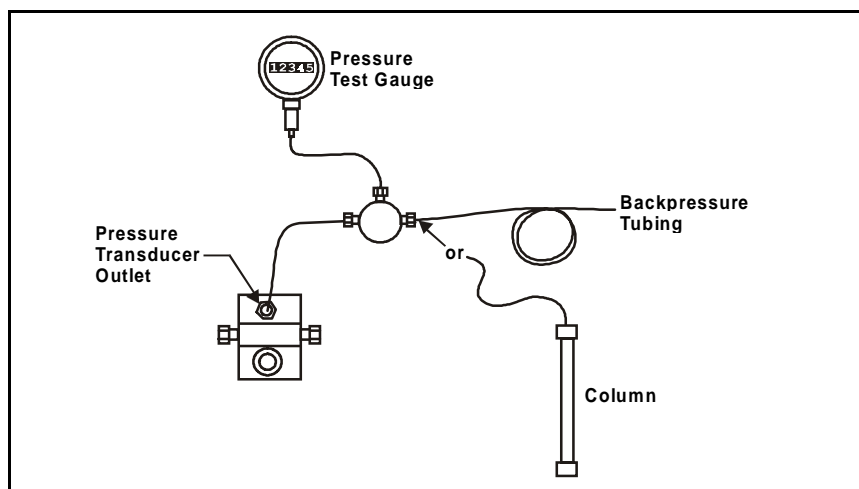

Figure C-28. Pressure Gauge Installation
7. Install a pressure test gauge between the pressure transducer outlet and either a length of backpressure tubing, or a column (see Figure C-28). A pressure gauge assembly (P/N 046175), which includes a gauge, backpressure tubing, and required fittings, is available for this purpose. Contact your Dionex office for details.